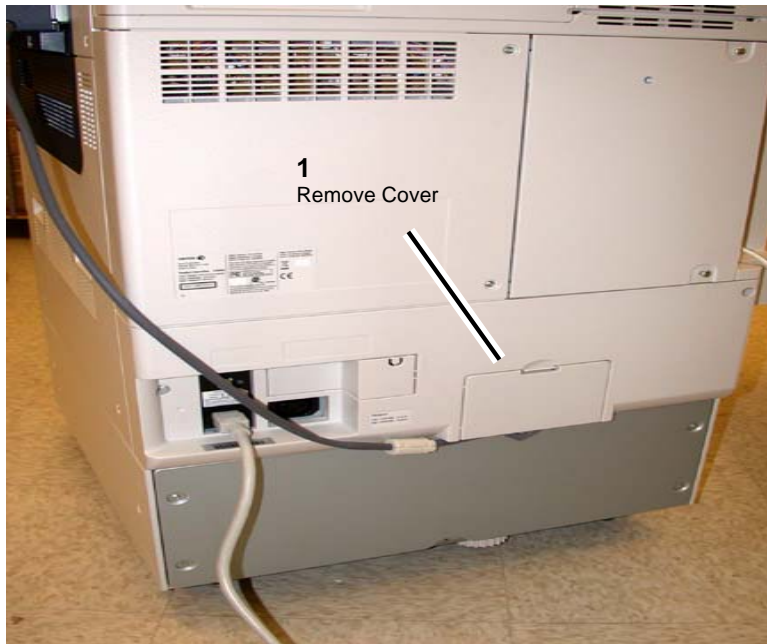

Figure 1 Remove Cover
- (1) Remove the Cover. (Figure 1)